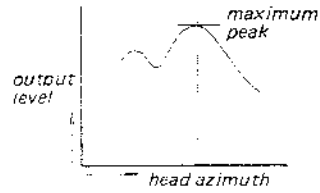

Fig. 5-2-6 Head azimuth adjustment (CASSETTE)
- 1) Choose the maximum peak of several ones. See Fig. 5-2-6.